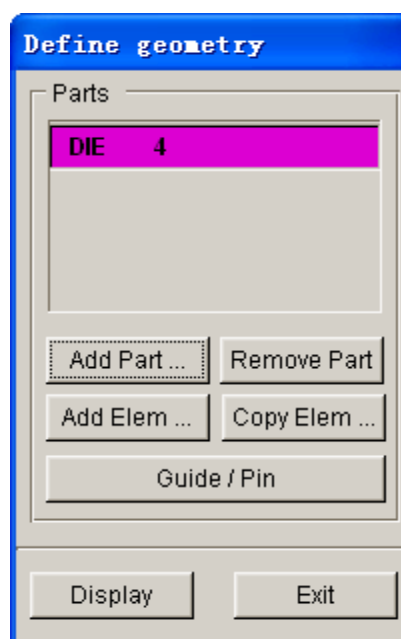

Figure 2.28 Die geometry list
13. Click **OK** button to dismiss the SELECT PART dialog box. Now, the **DIE** part is added to the list of DEFINE GEOMETRY dialog box. See Figure 2.28.